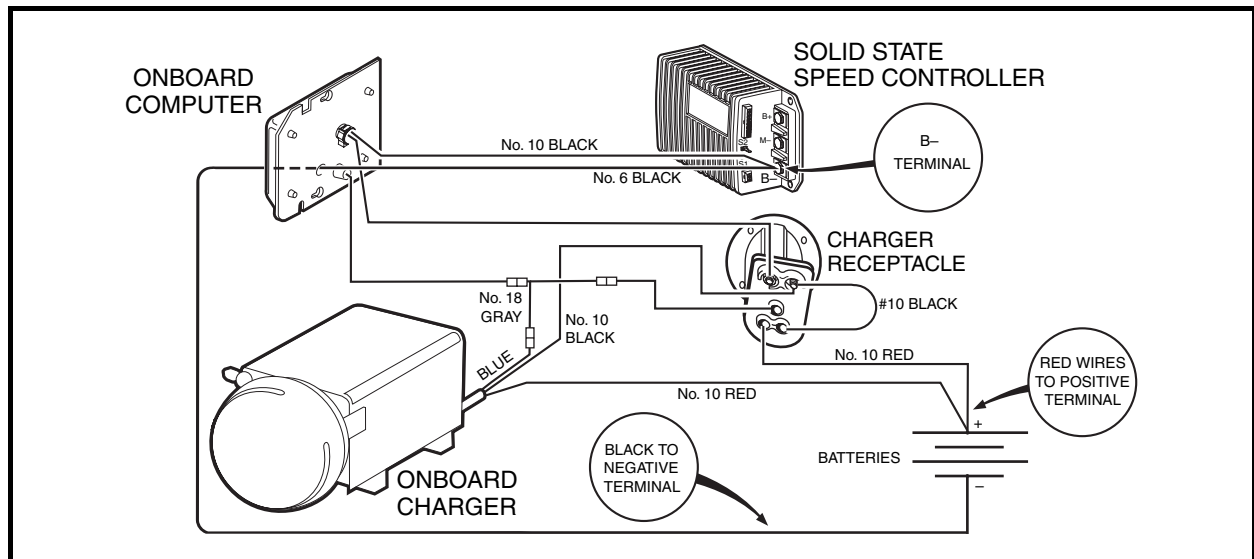
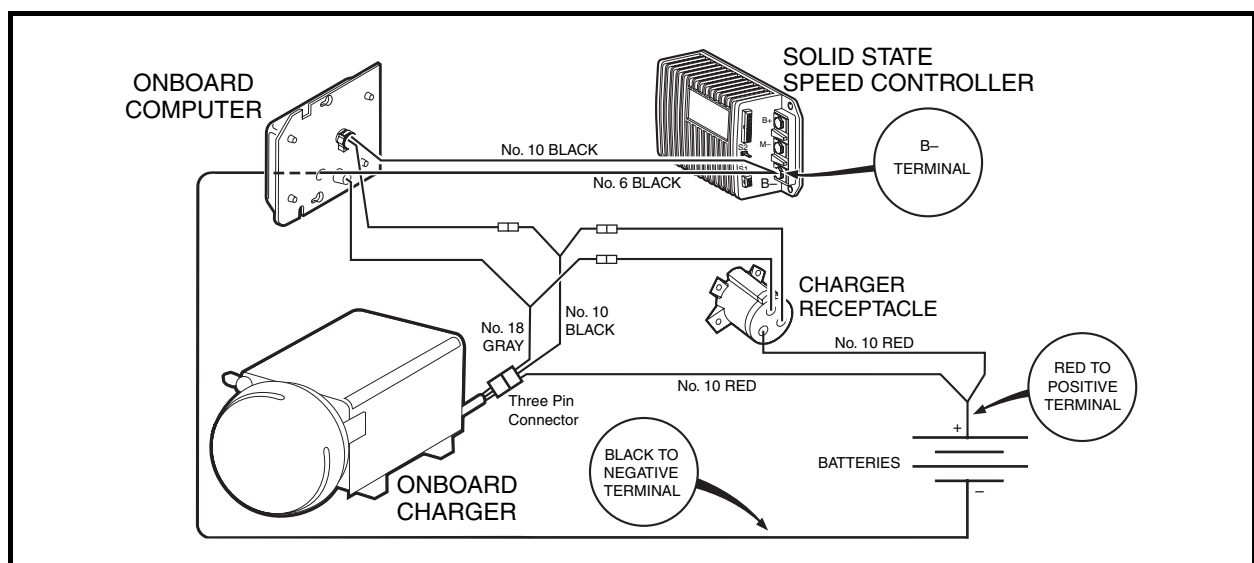
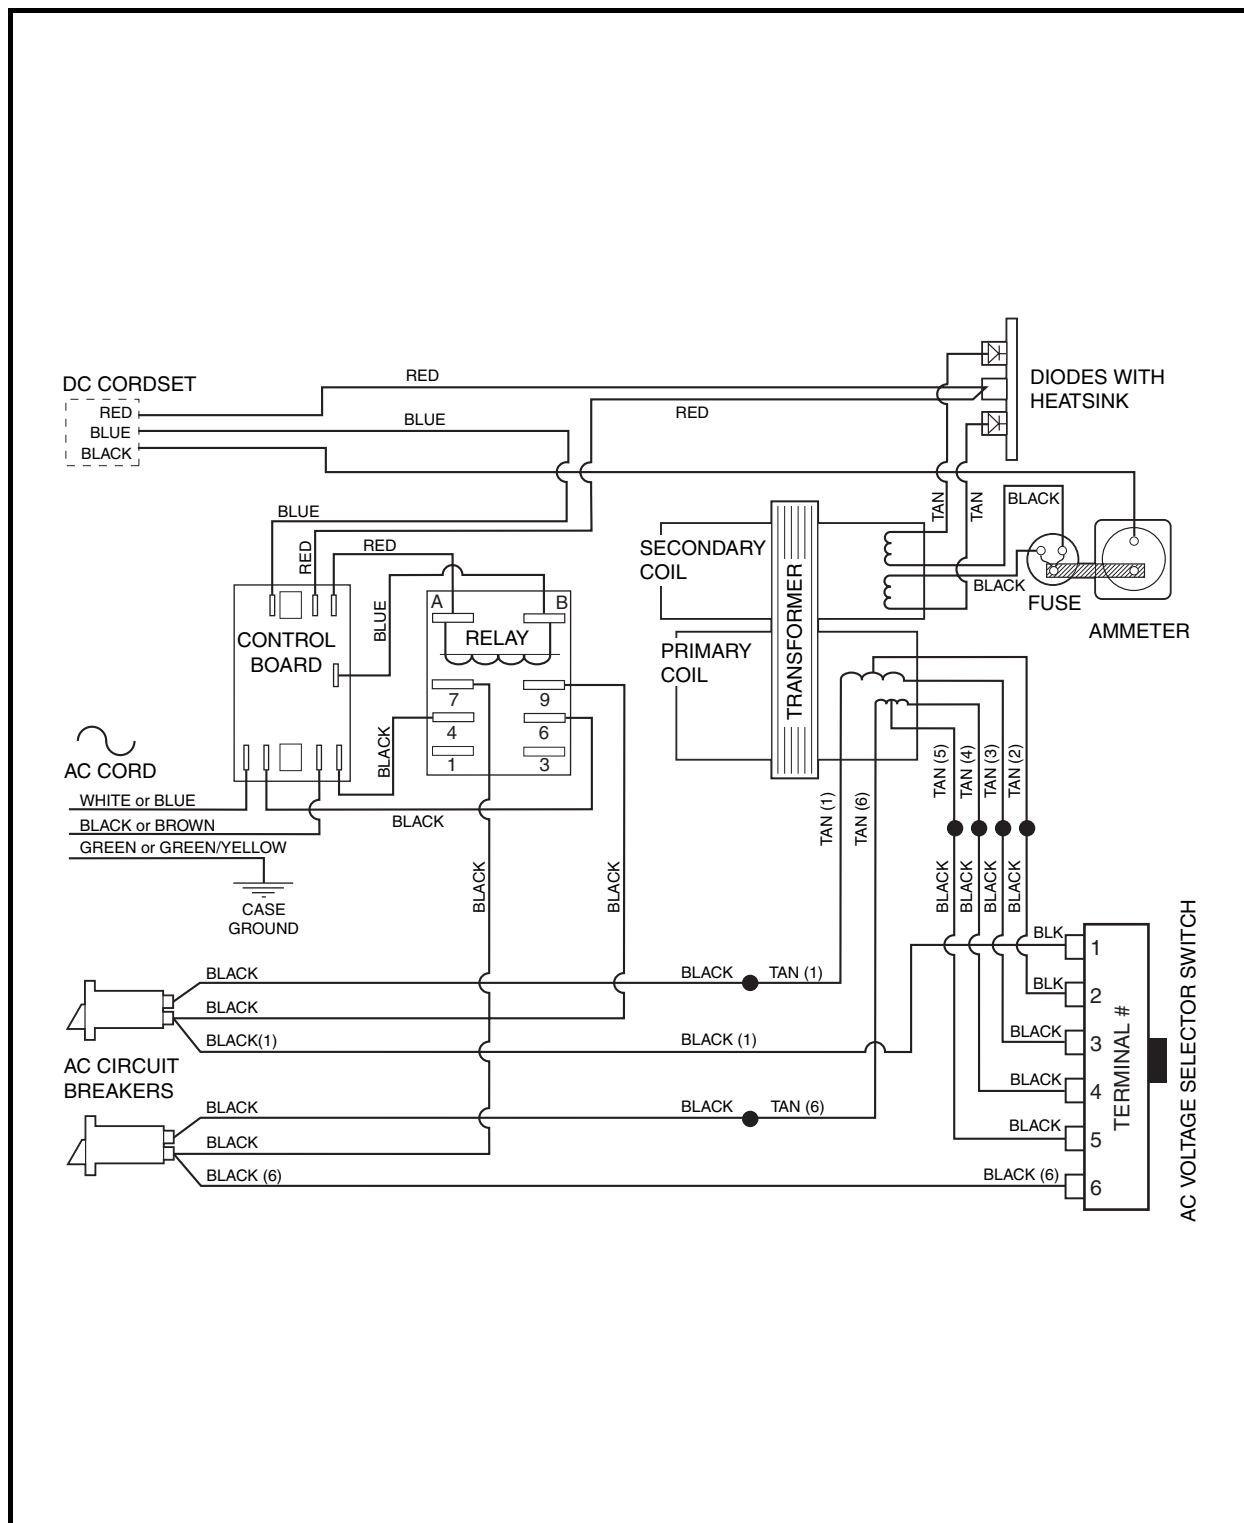
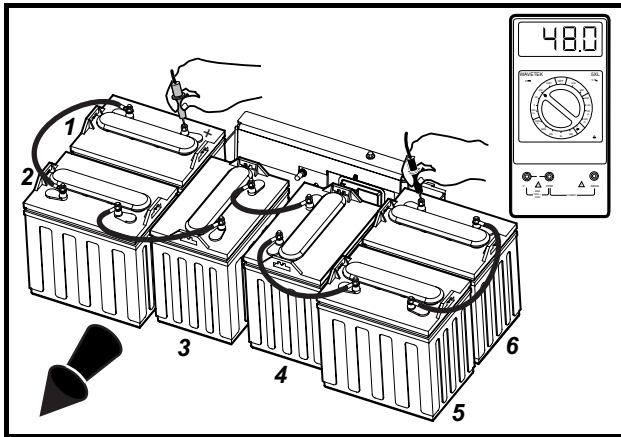

Figure 4-2 Charge Circuit – DS Villager 4
Figure 4-3 Charge Circuit – Precedent Vehicles
Figure 4-5 Export PowerDrive Onboard Battery Charger Wiring Diagram
Figure 4-9 Battery Voltage Test – Precedent Style C Battery Configuration
The black wire from the charger is connected to the fuse link, along with the short black receptacle wire, on the charger receptacle (**Figure 4-2, Page 4-3**). One 10-gauge black wire from the onboard computer connects to other side of the charger receptacle fuse link. The other 10-gauge black wire from the onboard computer connects to the B- terminal on the speed controller, and the 6-gauge black wire (also on the controller B- terminal) goes through the onboard computer and connects to the negative (–) post of battery no. 4. The red wire of the charger is connected to the positive (+) post of battery no. 1. The blue wire (sense lead) from the charger is connected, through a 3-way wire adapter at the sense lead fuse, to the gray wire that connects the charger receptacle to the onboard computer.
The 10-gauge black wire from the charger becomes two wires in the adapter harness (**Figure 4-3, Page 4-3**). One wire connects to the onboard computer black lead wire. The second wire connects to the charger receptacle black lead wire. The 6-gauge black wire (also on the controller B– terminal) goes through the onboard computer and connects to the negative (–) post of battery no. 4 (**Figure 4-7, Page 4-12 and Figure 4-8, Page 4-12**) or battery no. 6 (**Figure 4-9, Page 4-13**). The 10-gauge red wire of the charger is connected to the positive (+) post of battery no. 1. The 18-gauge gray wire from the charger becomes two wires in the adapter harness. One wire connects to the onboard computer. The second wire connects to the charger receptacle gray lead wire.
2. If the charger does not operate exactly as described above, refer to the wiring diagram and make sure that the vehicle is wired correctly (**Figure 4-2, Page 4-3**) and that the internal charger wiring is correct (**Figure 4-5, Page 4-7**).
- Knowledge of battery charger wiring and component terminology is required before attempting any repair (Figure 4-5, Page 4-7).
Improper vehicle or battery charger wiring	See Figure 4-2, Page 4-3, Figure 4-3, Page 4-3, Figure 4-5, Page 4-7, Figure 4-6, Page 4-12, Figure 4-7, Page 4-12, Figure 4-8, Page 4-12 and Figure 4-9, Page 4-13
3. **Style C 6 x 8-Volt Precedent only:** With a multimeter set to 200 volts DC, measure the voltage of the battery pack between the positive (+) post of battery no. 1 and the negative (–) post of battery no. 6 (Figure 4-9, Page 4-13).